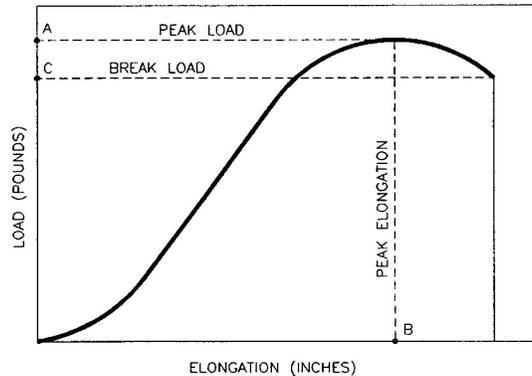

Figure AC.1: Load/Elongation Values
A. Peak Load is the maximum load experienced by the specimen during a test as illustrated by point A in Figure AC.1.
B. Break Load is either the recorded load at the point just before the specimen breaks or the recorded load where the break is defined as a percentage of Peak Load. Break Load is illustrated as point C on Figure AC.1.
D. Elongation-Gauge is the change in length of a specimen as measured by an extensometer or similar measuring device attached to the specimen as a load or a force is applied to the specimen. The distance between contact points of the measuring device attached to the specimen establishes the gauge length. An extensometer or similar measuring device attached directly to the specimen should be utilized to acquire accurate information regarding the stretching of the specimen under load. Peak Elongation is the elongation at Peak Load as illustrated by point B on Figure AC.1.
G. Break Elongation is the recorded elongation at the Break Load Point. Break Elongation is illustrated by point C on Figure AC.1.